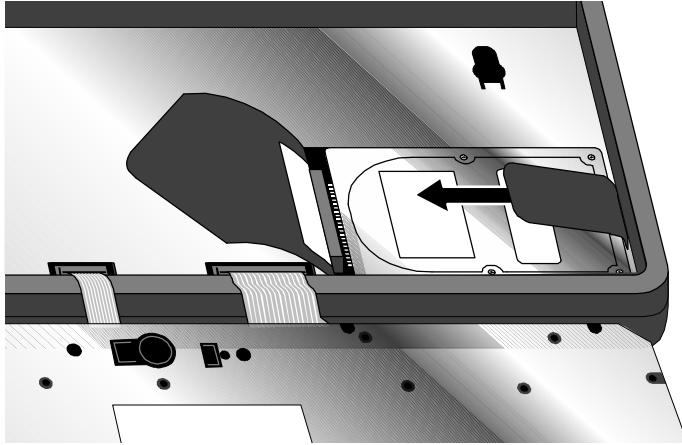

Figure 24 - Inserting the Hard Drive
3. Holding the new hard drive by its edges, lay it in place. Grasp the **right** flap of the insulator and pull to the left to engage the connection between the hard drive and the computer. See Figure 24 on page 56. If the hard drive's connectors do not engage the computer's connectors, pull the hard drive back out and try again. Then fold the insulator sheet back over the hard drive.